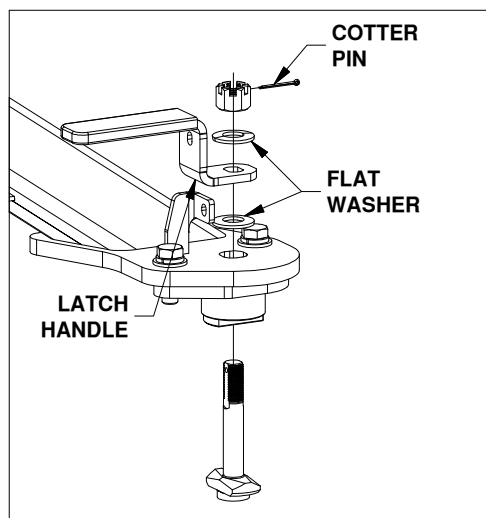

Figure C5: List of latch parts.
4. **Adjust the tension in the latch handle**, for parts list and visual guide refer to Figures C5 and C6.